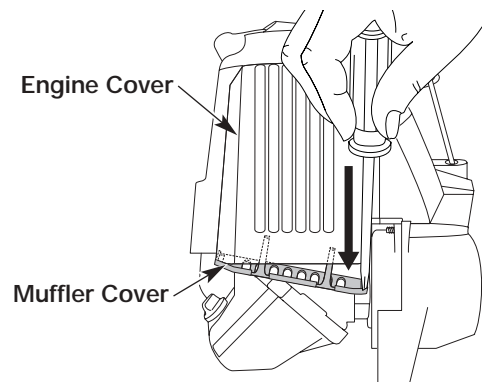

Fig. 27
1. Remove the muffler cover by pressing down on the corner with a flat blade screwdriver (Fig. 27). Slide the notches on the sides of the muffler cover over the tabs on the engine cover and remove.
13. Replace the muffler cover. Slip the long tabs on the muffler cover into the engine cover. Slide the notches on the side of the muffler cover over the tabs on the engine cover and snap into place (Fig. 27).